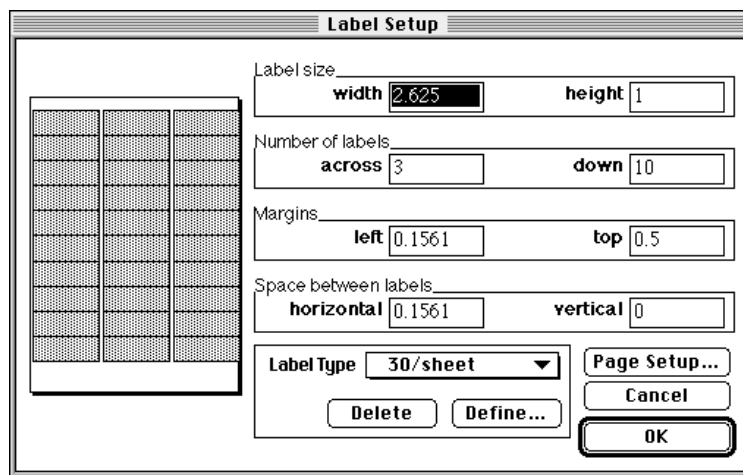

Figure 2-11 Label Setup Window
2. The **Label Setup** window appears. See Figure 2.11. Verify that **30/sheet** is selected at the **Label Type** pop-up menu. Then click **OK**. This selection allows you to print up to 30 labels on a page.